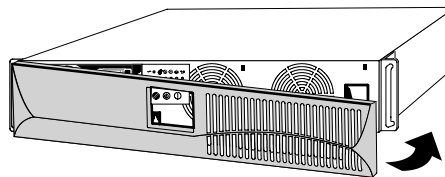

Figure 3. Reinstalling the Front Cover
4. Reinstall the UPS front cover (see Figure 3).